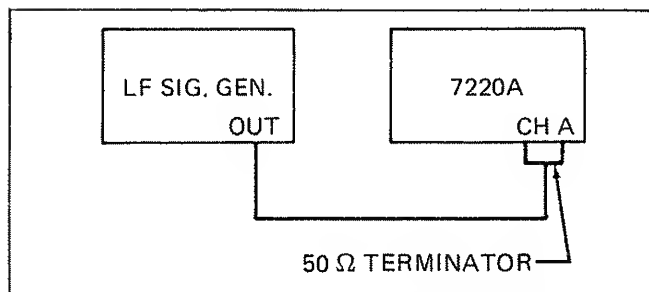

Figure 4-3. Channel A Low Frequency, Filter, and Attenuation Check
6. Disconnect the High Frequency Signal Generator and RF voltmeter from the 7220A, and connect the Low Frequency Signal Generator as shown in Figure 4-3.
2. Connect the 7220A and test equipment as illustrated in Figure 4-3.
1. Connect the 7220A and test equipment as illustrated in Figure 4-3.